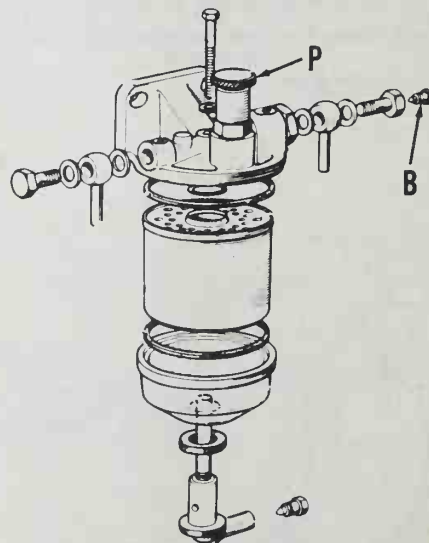

Fig. P1-5—View of fuel filter used on models equipped with Roto Diesel fuel injection pump.
fuel system on engines equipped with Roto Diesel injection pump, open fuel tank valve and fuel filter bleed screw (B—Fig. P1-5). Operate pump handle (P) until air-free fuel flows from bleed screw hole. Close filter bleed screw. Open fuel injection pump bleed screw and operate filter pump handle until air-free fuel exits pump bleed screw hole. Close pump bleed screw. Loosen fuel injection lines at injectors. With throttle open, rotate engine until air-free fuel flows from injection lines, then reconnect lines.